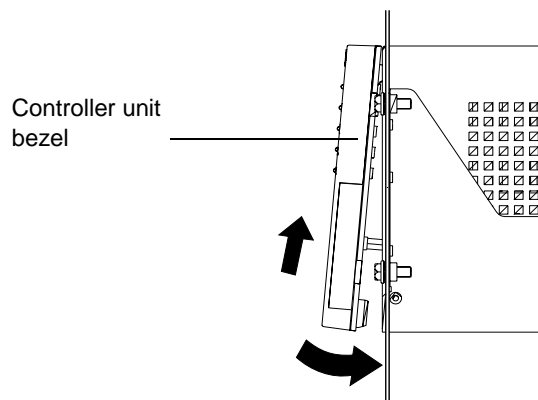

Figure 12. Replacing the controller unit bezel
- 6 To replace the bezel, slide the top edge under the lip on the chassis; then, push the bezel bottom until the pins snap into the mounting holes, as shown in Figure 12.